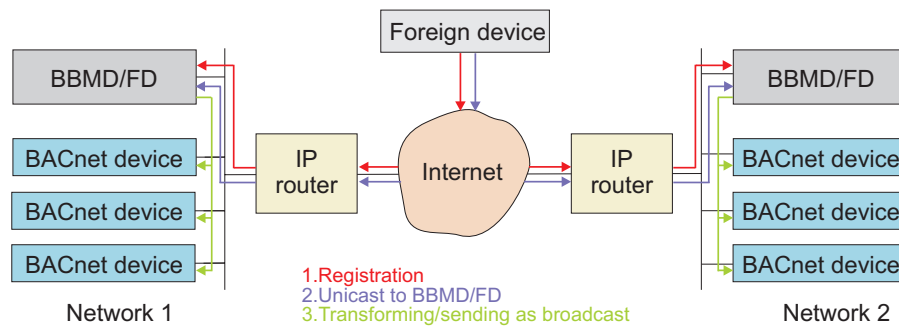

Fig. 3-38: Broadcast via BBMD
BBMDs also forward broadcasts to external devices, so-called Foreign Devices (FD). FDs are BACnet devices external to the network that report directly to a BBMD in order to receive broadcasts (see Fig. 3-38).